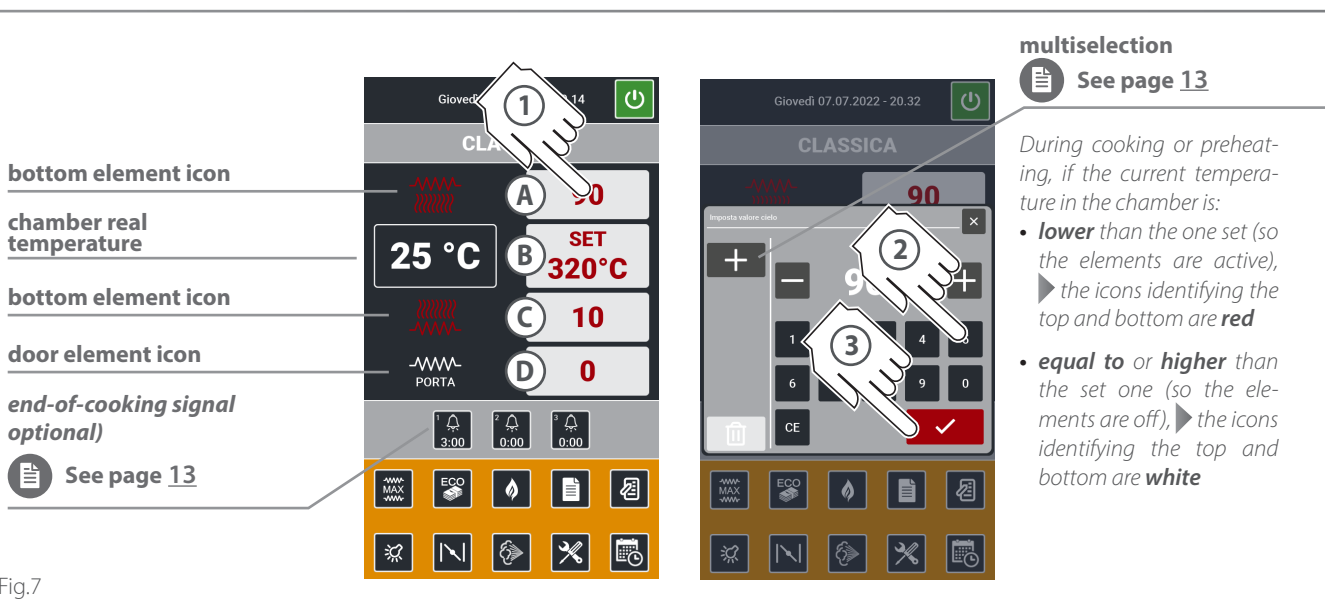

Fig.7
- **Fig.7** entering **manually** the desired **chamber temperature as well as the top and bottom power** (see table **COOKING INFORMATION** on page **8**). The entered parameters cannot be stored, so they need to be reset every time. To avoid this operation it is necessary to **save** the manually set recipe (page **13**) or **create** one (page **20**).
► Fig.7
- ① Touch the corresponding field and set:
- ② An alphanumeric keypad will appear on which it is possible to set the desired value (For some tips, see the **COOKING INFORMATION** table on page8).
- ③ Confirm with  or delete with **CE**.